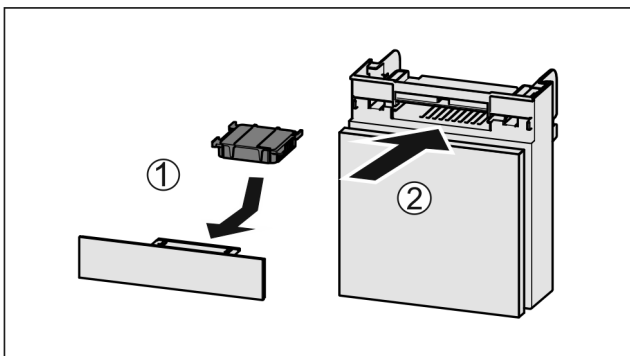

Fig. 48
- ▶ Insert the carbon filter as shown in the diagram Fig. 48 (1).
- ▶ Push the compartment in Fig. 48 (2).